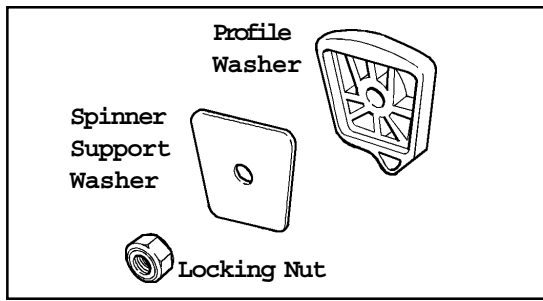

Figure 7-5
4. Remove the three locking type nuts ($\frac{1}{2}$ " socket) securing the spin basket to the spinner assembly (Figure 7-5).